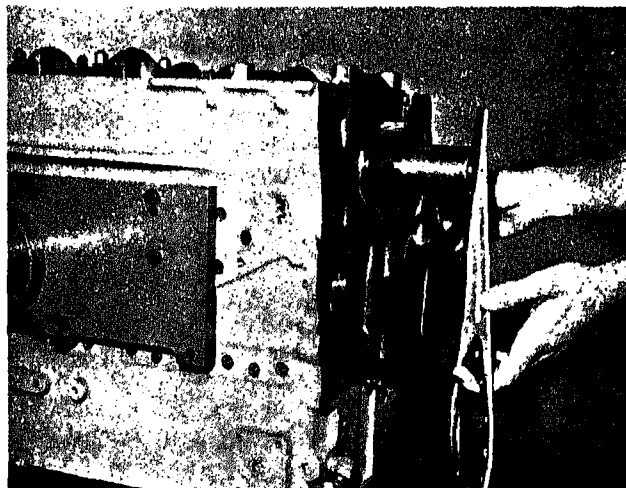

Fig. 14-1-20. Installing gear cover mounting plate
2. Mount plate over dowels, Fig. 14-1-20, and secure with lockwashers and capscrews; tighten to 30/35 ft. lb. [4.1490/4.8405 kg m].